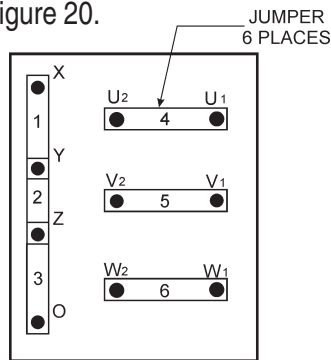

Figure 20. Voltage Change-Over Board 240V Configuration
1. Jumper the voltage change-over board for 240V operation as shown in Figure 20.
1. Make sure the voltage change-over board is jumpered for 240V operation as shown in Figure 20 .
1. Make sure the voltage change-over board is jumpered for 240V operation as shown in Figure 20.